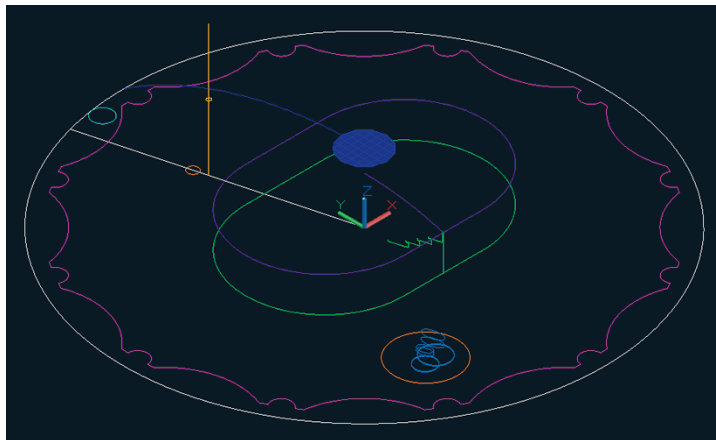

FIGURE 17.1 Creating a planar surface at the top of the dome
5. Click the SW corner of the ViewCube® to move to a SW isometric viewpoint. The blue planar surface you just created is visible at the top of the dome (see Figure 17.1).